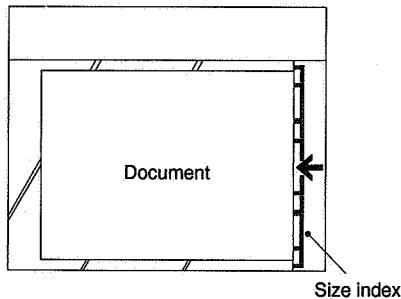

Figure 1-5
- ④ Main Indicator
- ⑤ Power Switch
- Place the document so that its center is at  on the size index (Figure 1-5); then, close the copyboard cover.